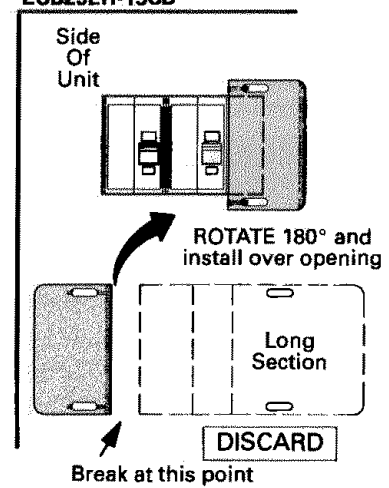
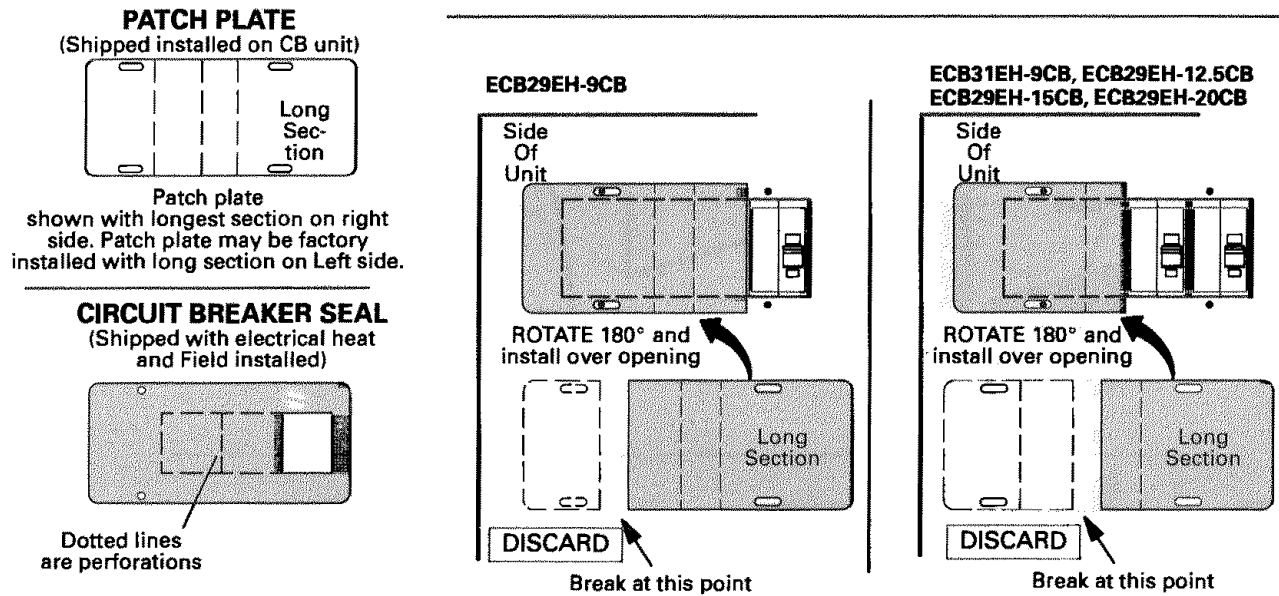

FIGURE 4
FIGURE 5
- 5 – Break the patch plate for the specific size of electric heat unit / blower coil unit being installed. Discard unused piece of patch plate. Refer to figure 4 for CB29M-21/26, CB29M-31, CB30M-21/26, CB30U-21/26 units; refer to figure 5 for all other blower coil units.